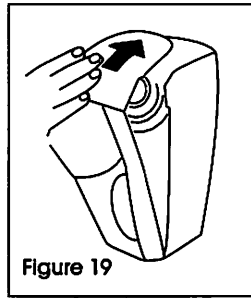

Figure 19
- To close the dispenser, place your hand on top or front of the dispenser below the push pad, and push up on the cover until it is latched. (See Figure 19)